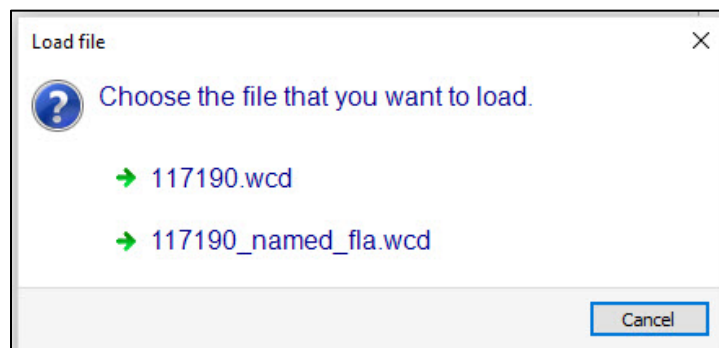

Figure 27. The Load file window prompt if multiple .wcd files are present in the selected folder.
- If there is more than one .wcd file in the folder specified, the software will prompt you to select one (Figure 27)
Figure 28. Drag and drop a folder of analysis data onto the CellSelect Software icon to open a results file. If multiple .wcd files are contained in the folder, it will behave similarly to the cases of Figure 27.